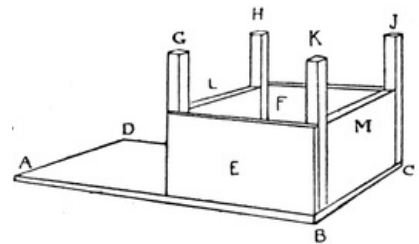
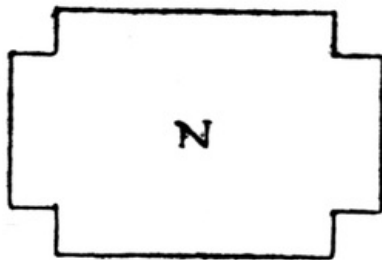

FIG. 372
FIG. 374
**A Signal-box** (Plate VIII). For the foundation of the signal-box, take a piece of wood 9 inches by 4 inches, A B C D (Fig. 372). Cut two pieces of wood, 4½ inches by 4 inches. Glue and nail these to A B C D (E and F in Fig. 372). Next cut four pieces of wood, G H J K, ¼" × ¼" × 6½". Glue these to E and F. Measure and cut two pieces of wood, M and L, to fit in between K and J, and G and H. Glue these in position. Next measure and cut out a piece of cardboard, N (Fig. 374), that will fit in between the posts, G H J K, and rest on the sides, E and F, and the ends, L and M. This forms the floor of the signal-box.